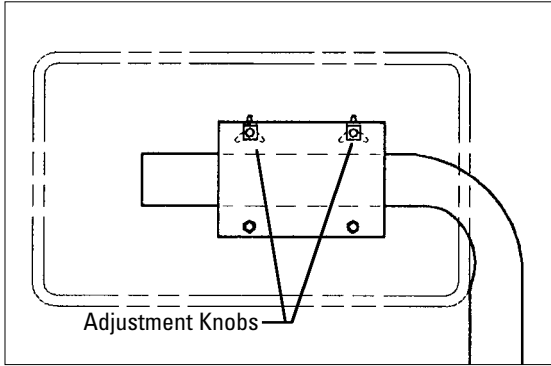

Figure 6 - Control Pod Adjustment Knobs
17. Loosen the two adjustment knobs on the back of the control pod (Figure 6).